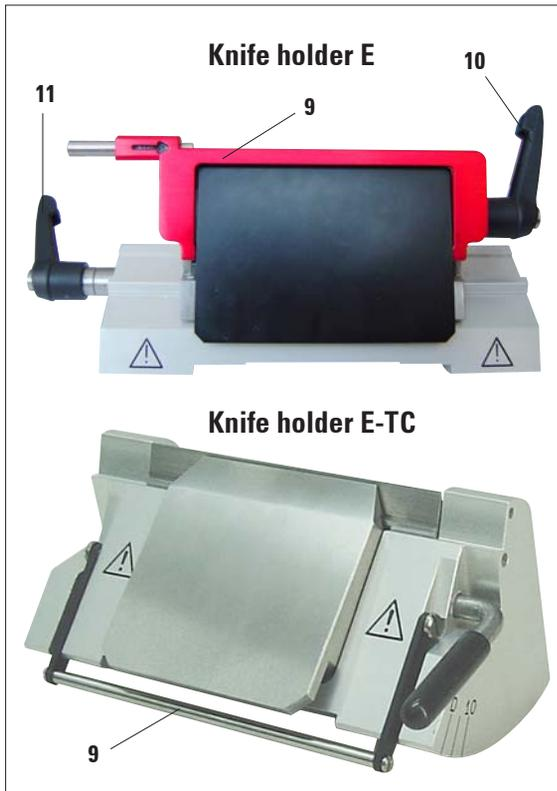

Fig. 5
The knife guard on knife holder E/E-TC consists of a red foldaway handle (9). To cover the cutting edge, fold the knife guard handle (9) upwards as illustrated in Fig. 5.
**The clamping levers on the knife holder E are not interchangeable. The two clamping levers (10, 11) must remain in the position shown at all times, as otherwise isolated malfunctions of the knife holder can occur. Clamping lever for the blade (10) at the right, clamping lever for the lateral displacement (11) at the left.**